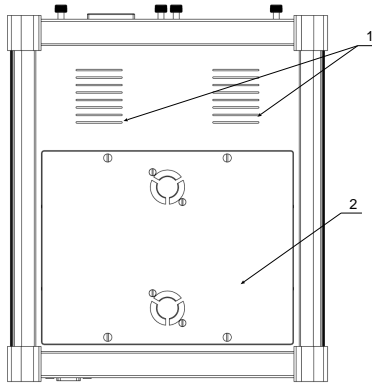

Figure 2.3. Bottom Panel
The bottom panel appearance is show in Figure 2.3.
- from two internal batteries (see Fig.2.3).